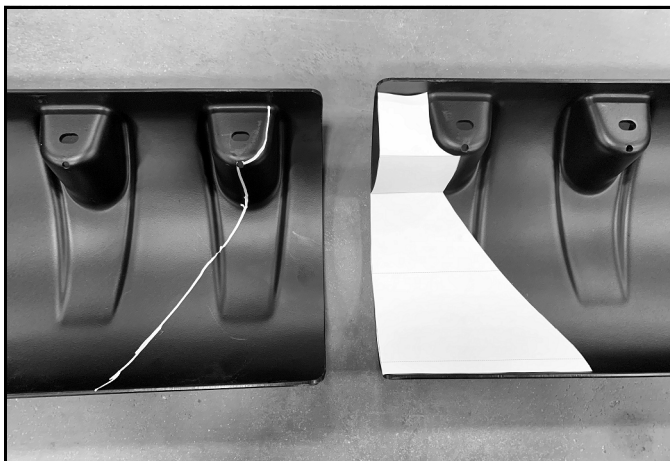

Figure 2
6. Reverse folds and lay templet onto 2nd deflector as shown in Figure 2. Draw a line along edge of templet.